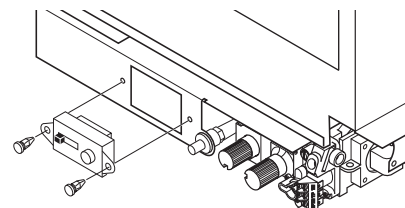

Figure 37 - Installing Remote Receiver
- Place receiver into valve bracket and align holes (see Figure 37).